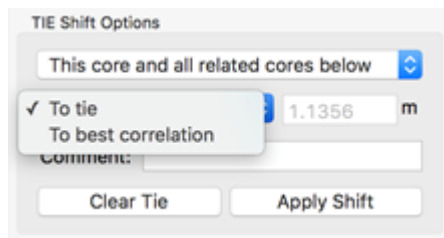

Figure 3-24. Tie control options “To tie” and “To best correlation”.
- Select “To best correlation” from the control pane (Fig. 3-24). This option does not have a context menu equivalent. The alternative is to shift “To tie”, the more common option. Note that using the statistical “To best correlation” option blindly may result in unexpected shifts!
- Ø On the control pane, two buttons are available to Apply Shift or Clear Tie (Fig. 3-24).